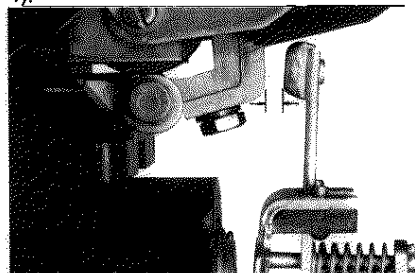

Figure 4
2. Hold the contact arm of the left contactor fully closed and push closed the contact arm of the right contactor until stopped by the mechanical interlock. With new contact tips, check that there is a gap of at least 3/16" but not more than 1/4" between the contact tips. (Fig. 4).
1. Contact arm gap is factory adjusted. Do not change the setting of the adjusting screw (27).
2. Should the setting be inadvertently changed, readjust the contact arm gap by turning the adjusting screw (27) located on the bottom of the contact arm (Fig. 1) until a contact tip gap of 5/16" is achieved (Fig. 4).
3. Retighten the locking nut (28) which holds the adjusting screw.